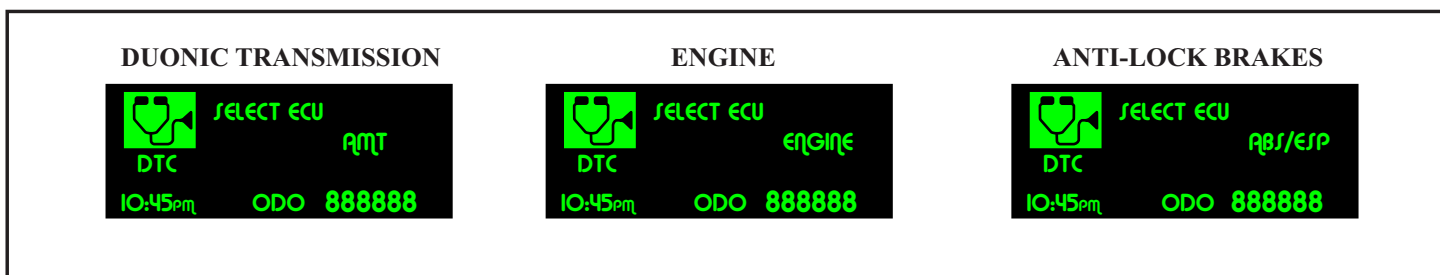

Figure 4
- Press the SELECT switch to select the system to be diagnosed, see figure 4.